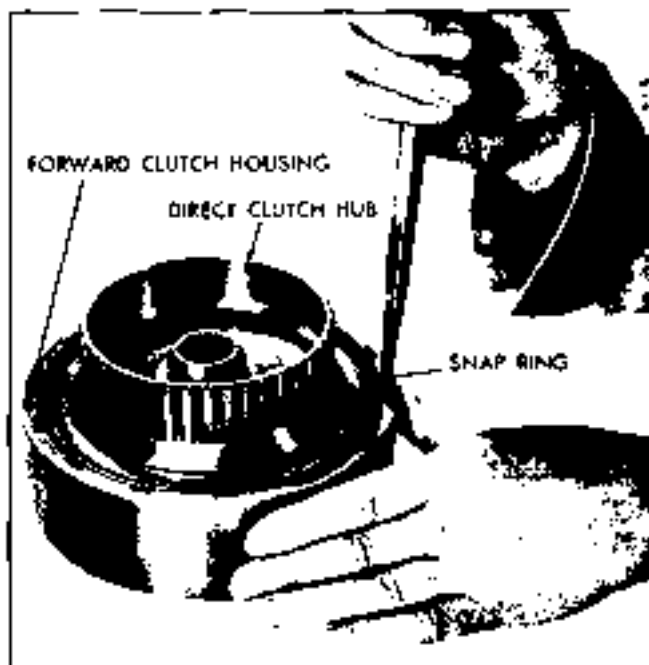

Fig. 7E-91 Installing Forward Clutch Housing to Direct Clutch Hub Snap Ring
CAUTION. Do not confuse the flat steel plate (plate with "Y" notch) with the waved steel clutch plate (plate with "U" notch). See Fig. 7E-90.
11. Install direct clutch hub and retaining snap ring (Fig. 7E-91).
12. Place forward clutch housing on pump delivery sleeve and air check clutch operation (Fig. 7E-92).